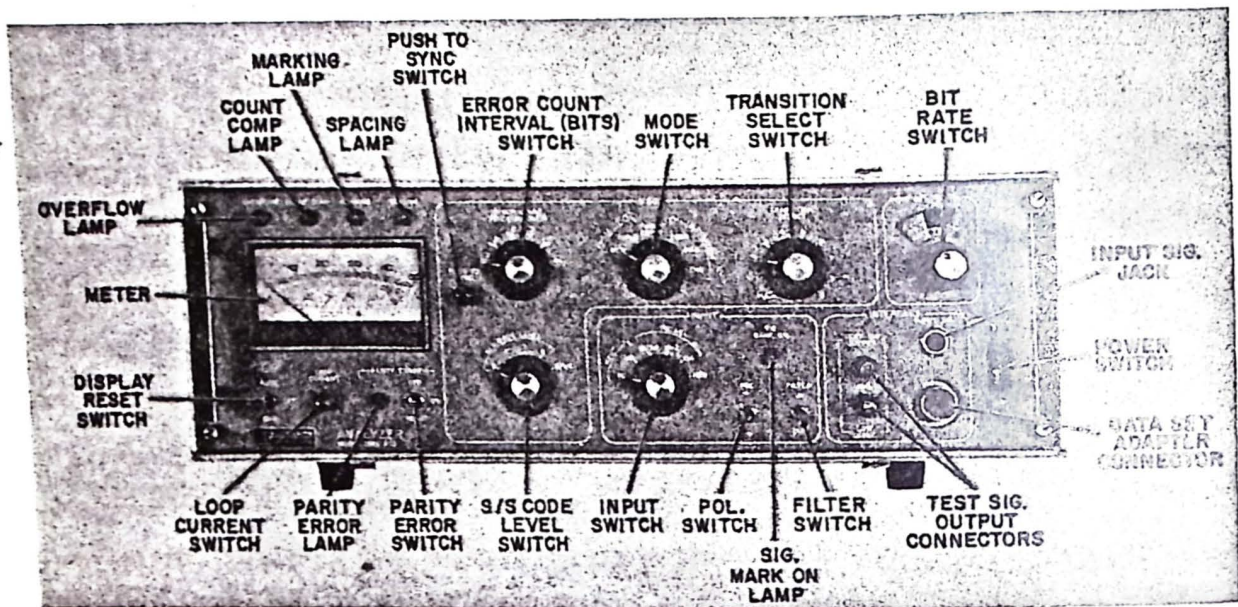

Fig. 4 - Front View - Analyzer Controls and Indicators
1.11 All operating controls and indicators are shown in Fig. 4 and described in Table III.